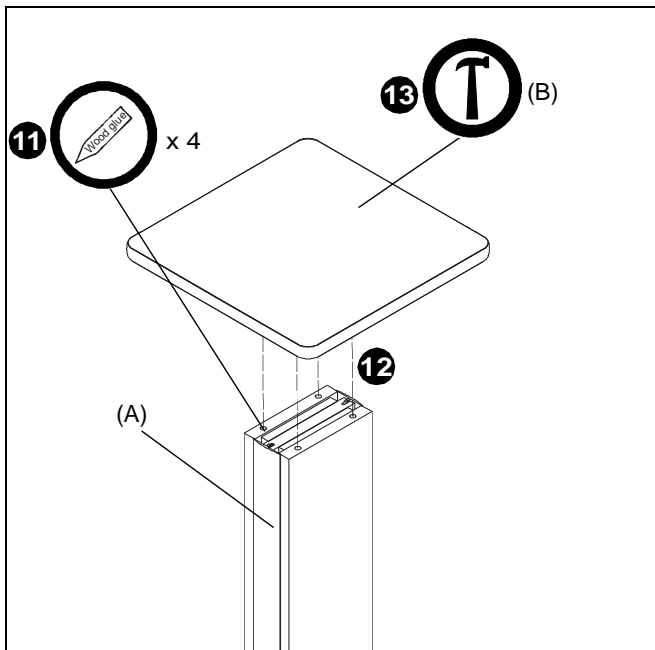

Figure 4
11. Fill the four holes on either end of the center column (A) half full of wood glue. (See Figure 4)
12. Line up dowels (D) installed on top plate (B) with holes on center column (A) and insert dowels into holes. (See Figure 4)
13. Use a hammer to gently tap dowels into holes. Place another piece of wood on top of top plate to prevent hammer marks. (See Figure 4)